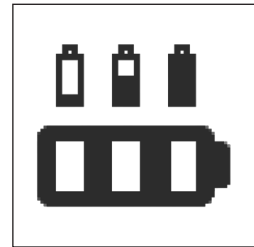

Figure 15 Battery indication hand control.
- There is a battery indication on the hand control (See figure 15).